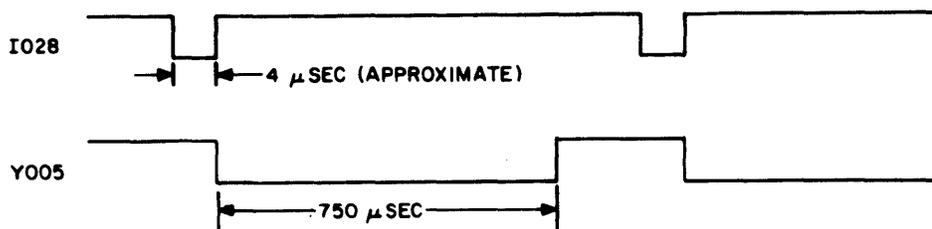

Figure 6-11. Sector Pulse Timing
22. Connect the oscilloscope probe to test point C of Y005 (C22). The oscilloscope traces should meet the requirements of Figure 6-11.
23. If the requirements of Figure 6-11 are not met, adjust the potentiometer on Y005 (C22).